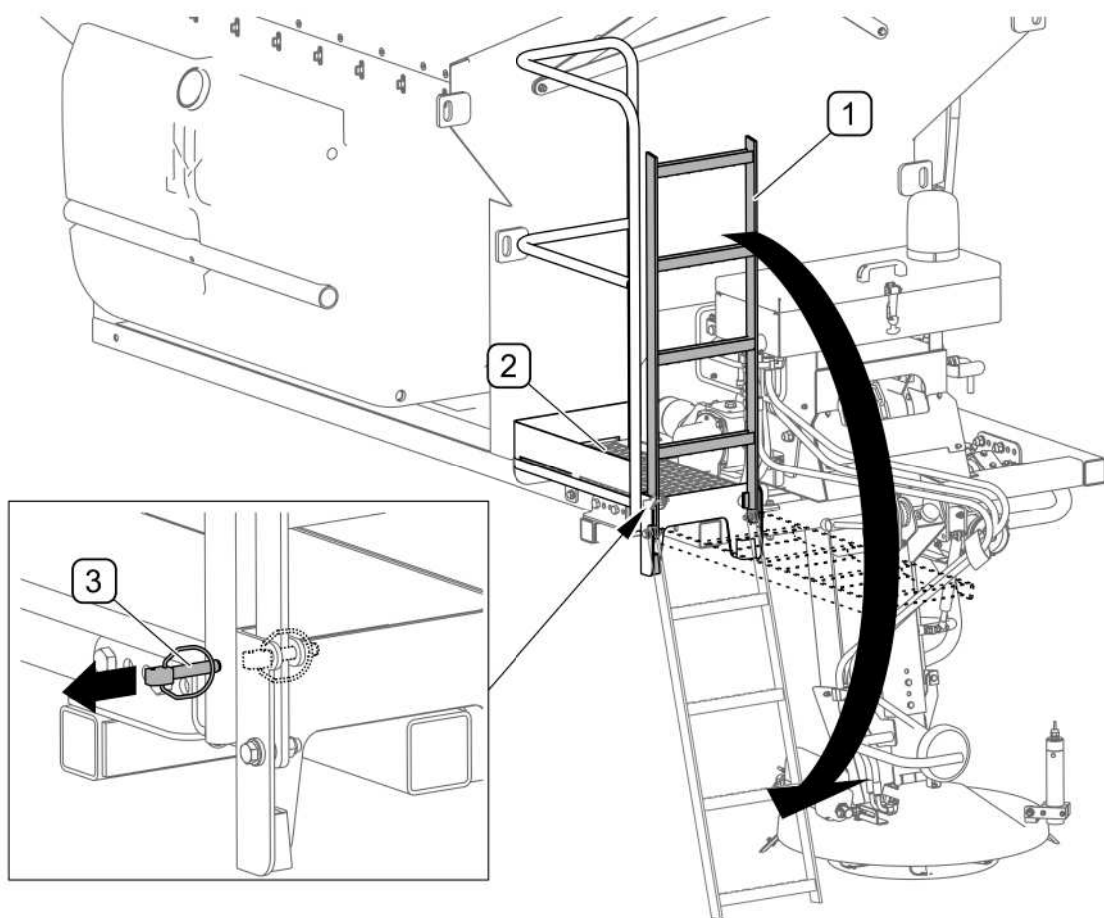

FIG. 4.13 Ladder and platform
(1) - ladder; (2) - platform; (3) - securing cotter pin
The platform (FIG. 4.13) fitted with ladder (1) facilitates raising and lowering of tarpaulin cover.
To lower the ladder (FIG. 4.13):